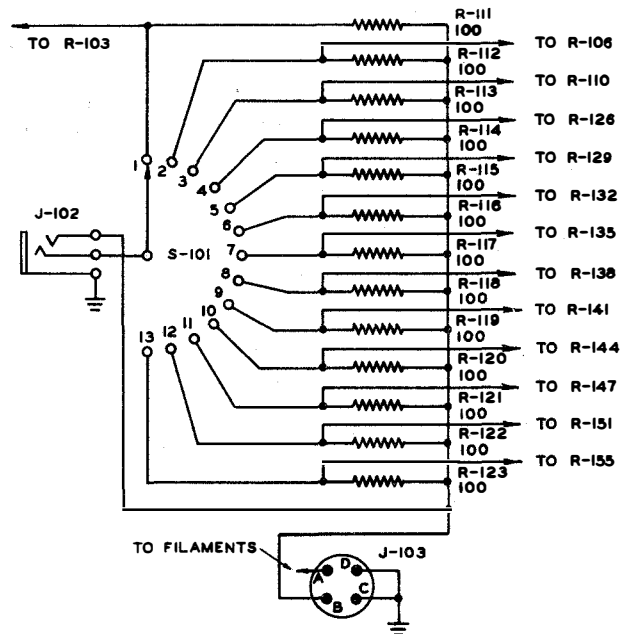

Figure 2-5. Antenna Multicoupler Unit, Meter Switch, Schematic Diagram
d. METER SWITCH. (See figure 2-5.)—When the meter is connected to J-102, it is possible to measure the plate current of any stage in the multicoupler unit by selecting the proper position of switch S-101. A 100-ohm resistor is connected in the plate circuit of each stage, the meter switch shunting the resistor of the stage being checked.